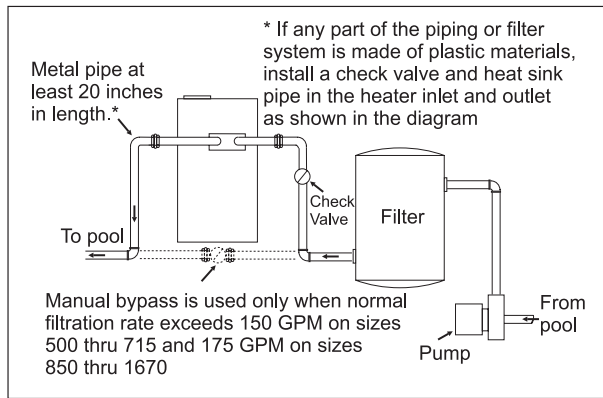

Figure 7. Manual By-Pass Installation.
1. Install the manual bypass valve as illustrated in Figure 7.